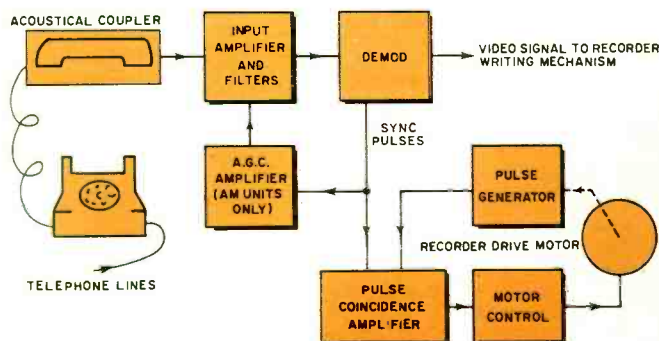

Fig. 3. Block diagram of recorder or receiver section of system.
The job of the recorder portion of a facsimile system is to translate the composite facsimile signal from the telephone lines into a document that very nearly resembles the one running through the transmitter. The main processes involved in facsimile recording are: (1) demodulating the composite facsimile signal, (2) synchronizing the recorder scanning mechanism with that of the transmitter, and (3) reproducing the information on a piece of paper. See Fig. 3.